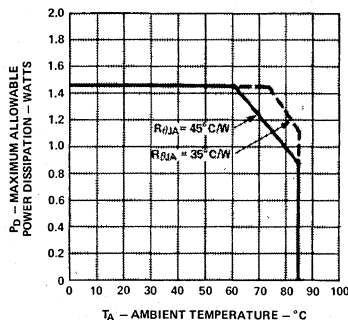

Figure 2. Maximum Allowable Power Dissipation vs. Temperature
- The device should be derated linearly above 60°C at 22.2 mW/°C. This derating is based on a device mounted in a socket having a thermal resistance from case to ambient at 25°C/W per device. See Figure 2 for power deratings based on a lower thermal resistance.
The HDSP-2490/-2491/-2492/-2493 are available in standard ceramic dual-in-line packages. They are designed for plugging into sockets or soldering into PC boards. The packages may be horizontally or vertically stacked for character arrays of any desired size. The HDSP-2490/-2491/-2492/-2493 utilize a high output current IC to provide excellent readability in bright ambient lighting. Full power operation ( $V_{CC} = 5.25V$ ,  $V_B = 2.4V$ ,  $V_{COL} = 3.5V$ ) with worst case thermal resistance from IC junction to ambient of  $45^\circ C/watt/device$  is possible up to ambient temperature of  $60^\circ C$ . For operation above  $60^\circ C$ , the maximum device dissipation should be derated linearly at  $22.2 mW/^\circ C$  (see Figure 2). With an improved thermal design, operation at higher ambient temperatures without derating is possible. Please refer to Application Note 1016 for further information.